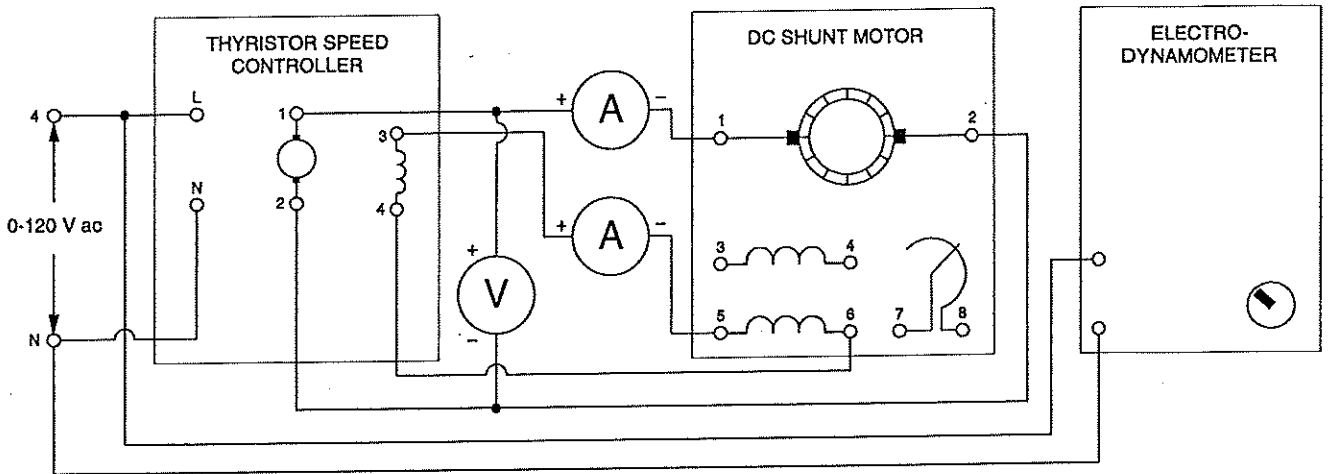

Figure 11-2.
- 3. Connect the circuit shown in Figure 11-2.